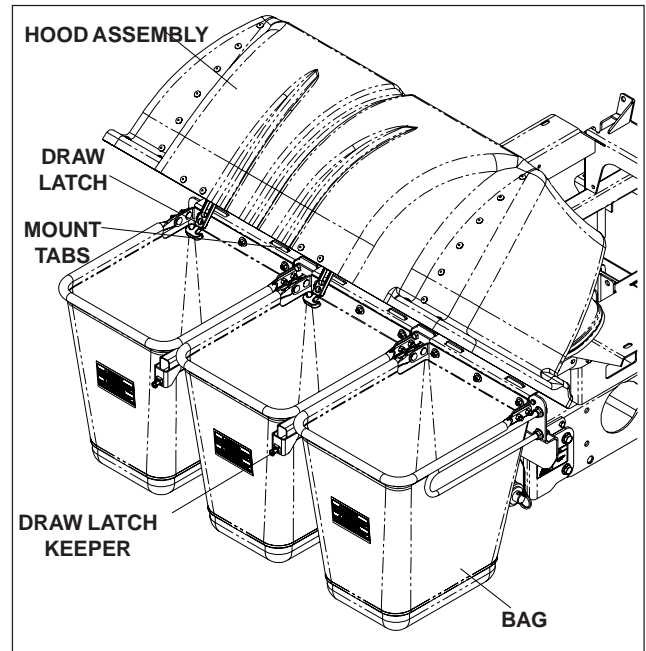

FIGURE 4
8. With the hood open, secure the (3) bags in place. The back of the bags will hook over the mounting tabs on the hitch assembly. Figure 4.
9. Close the hood, and latch the draw latch over the draw latch keeper on the hitch assembly. Figure 4.